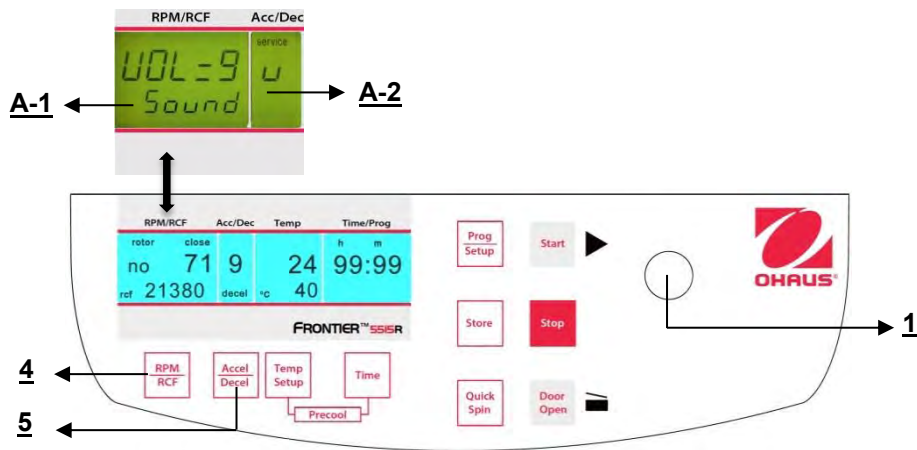

Figure. 34
Proceed as described under point 4.1.2 to enter this program mode and then press the key "**Accel/Decel**" (5). In the display "**Acc/Decel**" (A-2) the word "**Service**" flashes. Now select the letter "**U**" with the adjusting knob (1). As a result, in the display "**RPM | RCF**" (A-1) the words "**Vol=0- 9/Sound**" appear. After pressing the key "**RPM | RCF**" (4), you can adjust the desired volume between 0 (low) and 9 (loud) with the adjusting knob (1) (See figure 34).